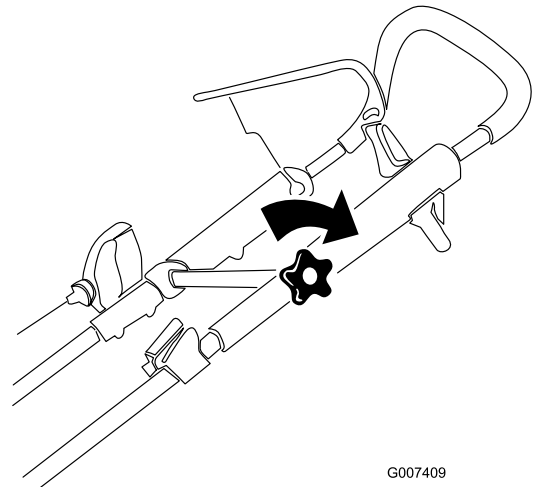

Figure 19
3. Tighten the upper handle knob firmly (Figure 19).